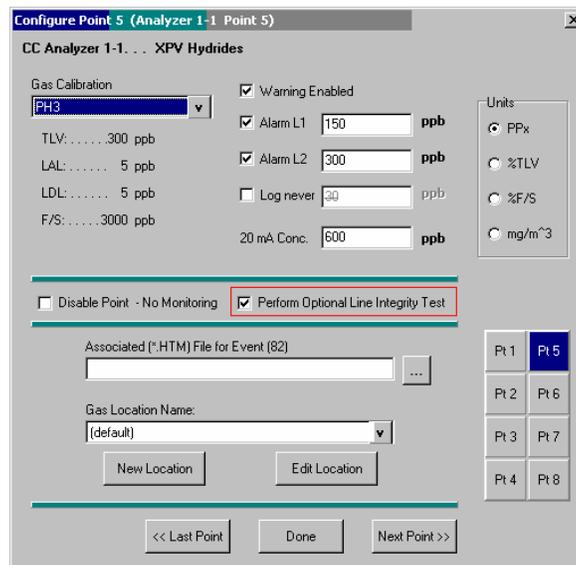
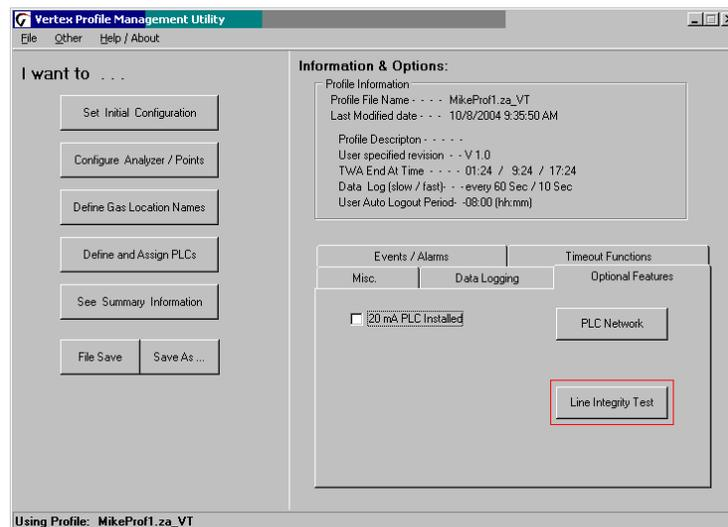
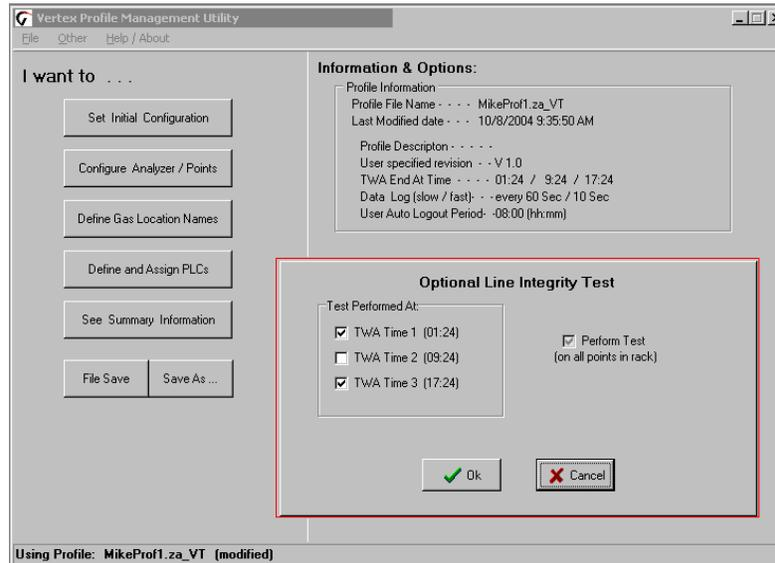

Figure 2 -- New Checkbox
Figure 3 -- Configuration Editor New Button
Figure 4 -- Configuration Editor New Page
1. A new checkbox has been added to the Configure Point screen as highlighted by the red rectangle in Figure 2. This is checked by default. Clearing this checkmark prevents the generation of LIT-related faults for the associated point. Otherwise, nuisance faults may be generated for points with incompatible external components. Examples include tubes longer than 90m, medium-walled tubing, and shared sample lines.
2. A new button has been added to the "Optional Features" tabsheet as highlighted by the red rectangle in Figure 3. Pressing this button causes the form shown in Figure 4 to appear.
3. A new page has been added to the configuration editor as highlighted by the red rectangle in Figure 4. This appears when the “Line Integrity Test” button shown in Figure 3 is pressed.
The checkmark itself indicates the status of the point-specific checkboxes shown in Figure 2. The checkmark can be scrolled through 2 or 3 states (set, cleared and possibly gray). If the point-specific LIT checkboxes are all set, this checkmark will be set. If they are all cleared, then this checkmark will be cleared. Otherwise, this checkmark will be gray.
Pressing the “Record Known Good LITC” button will cause a characterization to be performed on all analyzers in the rack. Similarly, pressing the “Line Integrity Test” button will cause a line integrity test to be performed immediately. This is in addition to the LITs which are scheduled by the checkboxes in Figure 4.
5. Select the time of day when the LIT test is to be performed by selecting the checkboxes shown in Figure 4. The LIT test may be performed one, two or three times per day. However, each LIT test causes monitoring to be stopped for about two minutes.
6. Select which points should have the LIT test performed. This is shown in Figure 2 and Figure 4. It may be desirable to disable the LIT test to avoid superfluous faults for points which do not meet the criterion listed in step 1 above.